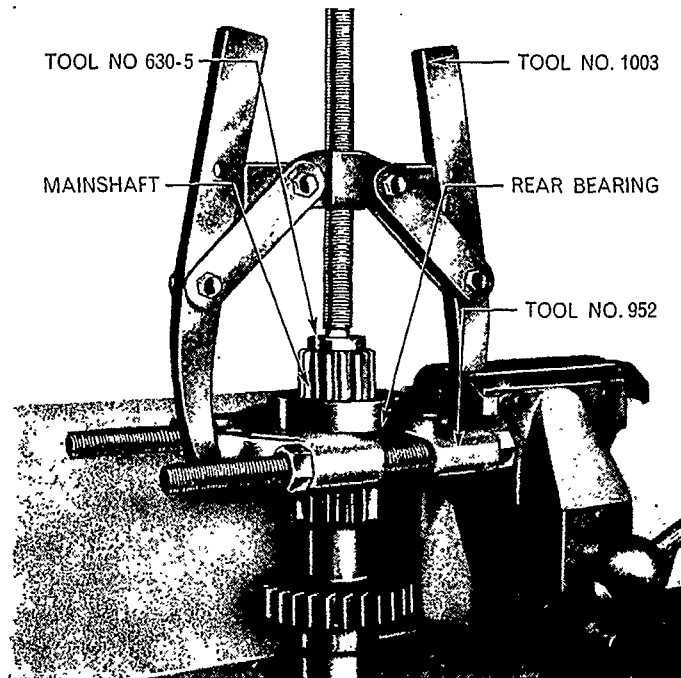

Figure 79
2. If necessary, remove the mainshaft rear bearing using Tools 1003, 630-5, and 952, Figure 79. If necessary remove the front bearing using Tools 1003, 951, 630-5, 625-2 and two pieces of steel $\frac{3}{16}$ in. (4.8 mm) diameter and 2 in. (50.8 mm) long, as described for removing the secondary countershaft front bearing in Section 4A.